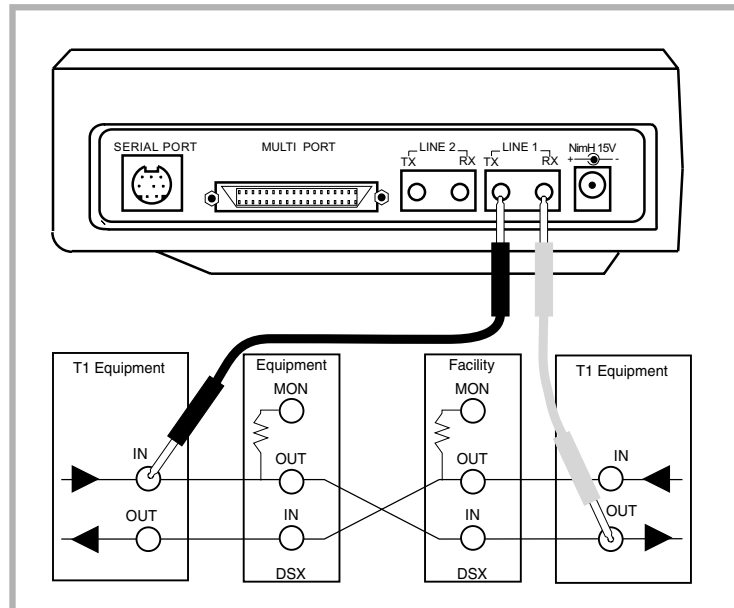

Figure 177 Checking DSX Wiring
3. Connect the SunSet T10 to the circuit as shown in Figure 177. Use one SunSet T10 as shown in the diagram or two SunSet T10s if the two pieces of equipment are not located close to each other. Find a point on either side of the DSX to connect SunSet T10. Make sure that the circuit is open at each point so that the SunSet T10 is not bridge-tapped onto the existing circuit. Once connected to the circuit, press the HISTORY key on the keypad to clear the blinking LEDs.